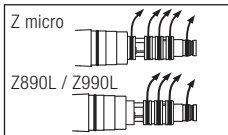

Fig. 37
- ➋ Gently remove each O-ring by hand (Fig. 37).